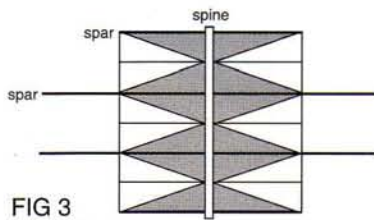

FIG 3
10. Figure 3 shows the position of the spine and the spars on the back of the kite. The two halves will be joined by gluing the edges pointed out in Figure 1. Place the spine on this joining area. The gray areas in the drawings are flat and the white areas form the air stream channels. Put the spine on the back of the kite, leaving 10 mm extending on each end. On the spine, mark accurately the position of the four spars.